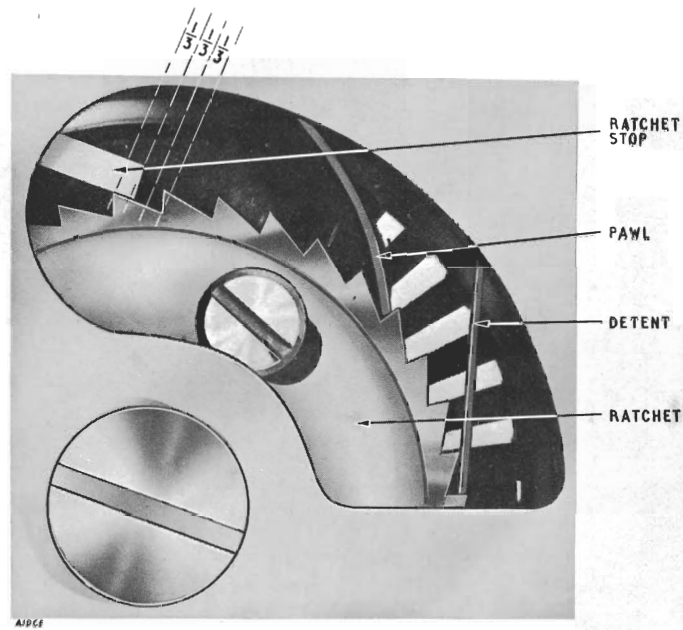

FIG. 7
14. Pawl reach.—This must be such that when the armature is operated and released manually the tip of the ratchet stop comes to rest at a point between $\frac{1}{8}$ and $\frac{3}{8}$ along the face of a ratchet tooth (see Fig. 7). If readjustment is necessary proceed as follows:—